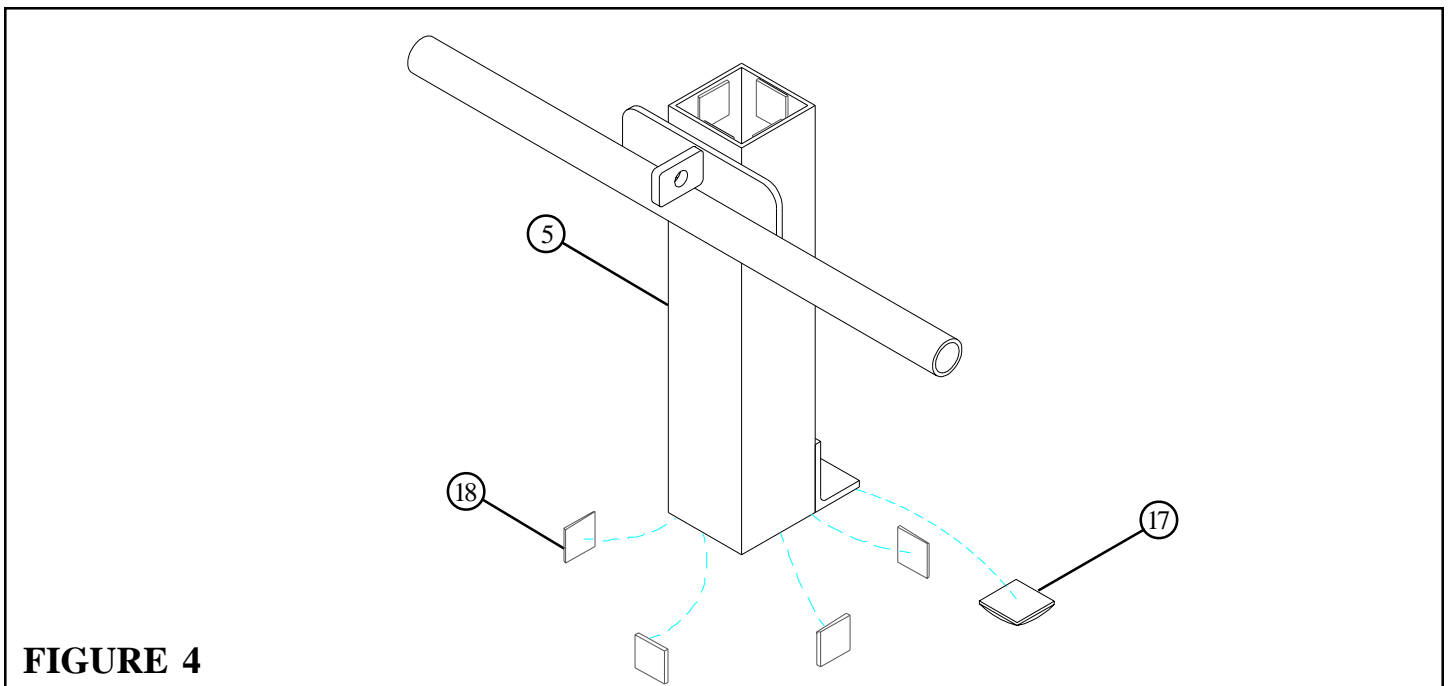

FIGURE 4
- Attach eight 1 X 1" GLIDES (18) to the ends the CARRIAGE (5) as shown in FIGURE 4 using the following steps:
- Thoroughly clean all surfaces where the 1 X 1" GLIDES (18) are to be attached.
- Remove the 1 X 1" GLIDES (18) from the paper backing and firmly apply them to all shown surfaces.
- **SECURELY** attach one 1-1/4" SQ. RUBBER BUMPER (17) to the CARRIAGE (5) as shown in FIGURE 4.